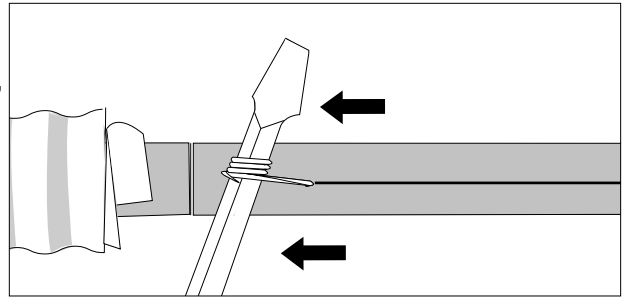

Figure 12 — Pulling the rip cord
- c) Pull the rip cord through the jacket to the ring cut (Figure 12).